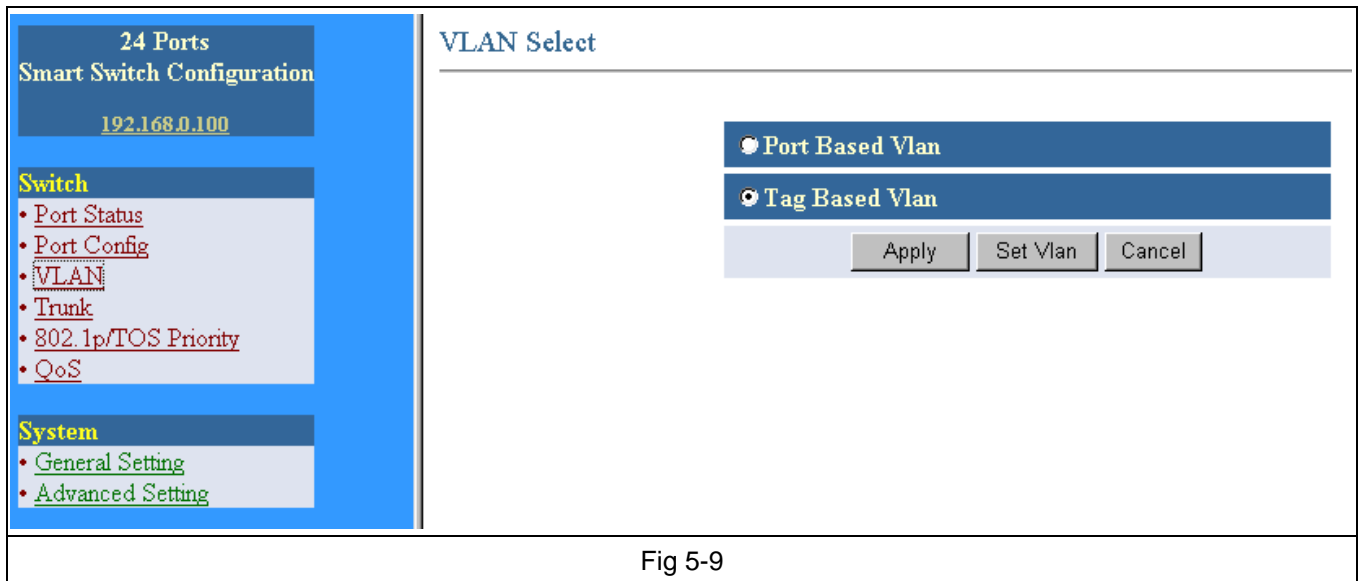

Fig 5-9
1. Select port-based VLAN or tag-based VLAN. (Fig 5-9)